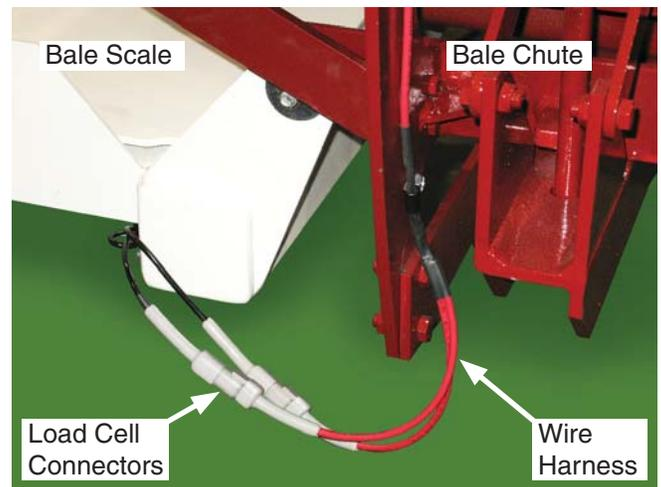

Figure 2-4-21 - Load Cell Connectors
To determine if one load cell or its wiring is causing a problem, each load cell may be disconnected. If the system is operating correctly, the displayed weight should change significantly when each load cell is disconnected. Locate the connectors on the right side of the bale scale near where it attaches to the bale chute (see Figure 2-4-21).
3. Unplug one of the load cell connectors (see Figure 2-4-21).